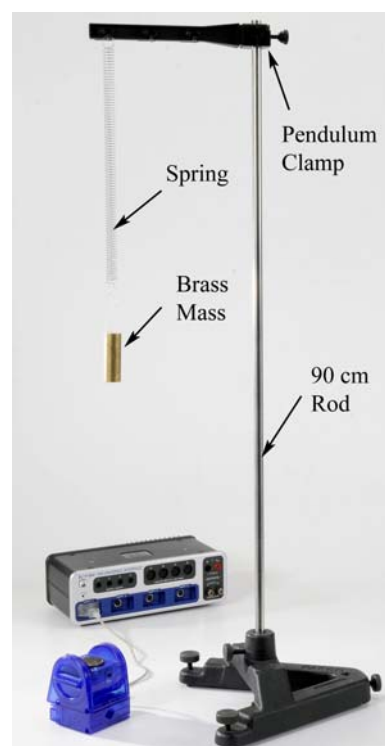

Figure 1. Simple Harmonic Motion
1. Use the large base and 90 cm rod to support the pendulum clamp as shown in Figure 1.